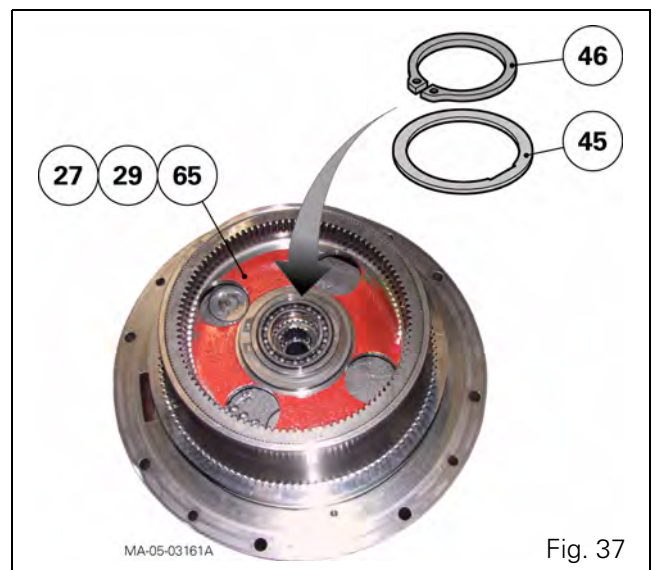

Fig. 37
63. Position the ring gears (29) (65) and ring gear carrier (27) assembly on the planet carrier (25) (Fig. 37).
64. Fit the spacer (45) and the circlip (46) (Fig. 37).